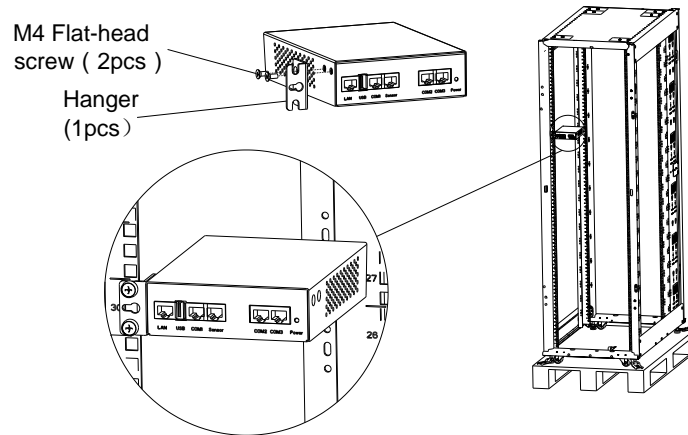

Figure 2-2 Installation bracket and rack-installation effect
2. Use M4 screws (from accessories) to fix the brackets (usually the multi-purpose parts, can be used both for hanging mode installation and installation in rack) on the sides of the RDU-EX box (on either left or right sides), as shown in Figure 2-2.